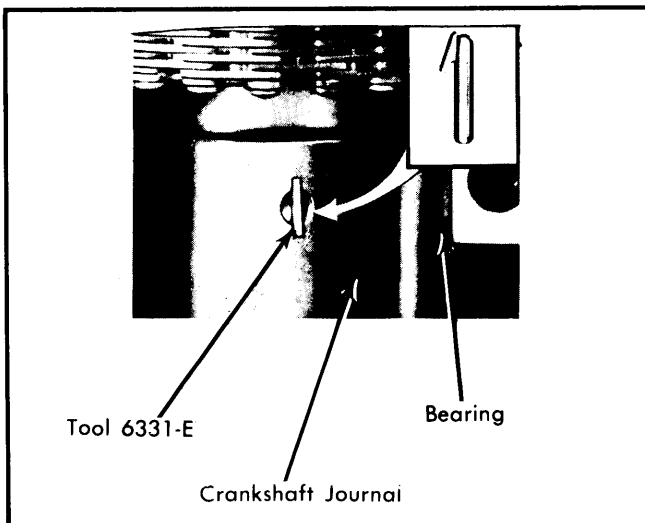

Fig. 12 Removal and Installation of Upper Main Bearing
**Main Bearings** – 1) Mark main bearing caps for identification before removal. Remove bearing caps and upper half of main bearing. Rotate crankshaft slowly in direction of engine rotation to force upper half of bearing out. See Fig. 12.